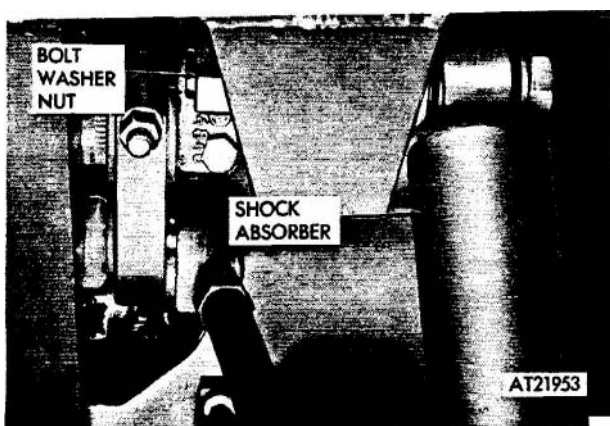

Figure 2-302. Tractor front and carrier shock absorbers (upper), removal and installation.
(3) Remove upper bolt, nut and washers securing upper end of shock absorbers to vehicle structure (fig 2-302). Remove shock absorbers.
(1) Position upper end of shock absorber to vehicle structure and secure with bolt, nut and two washers. Torque nut to 105 lbs-ft. (fig 2-302).